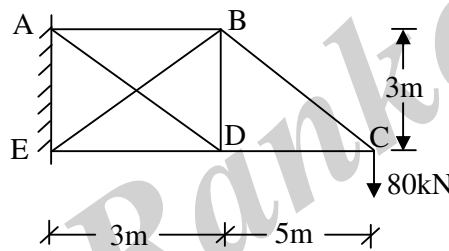

Figure 4
7. A frame is shown in Figure 4. Take AE is constant for all the members. Find the final force in all members. Use Energy theorem.